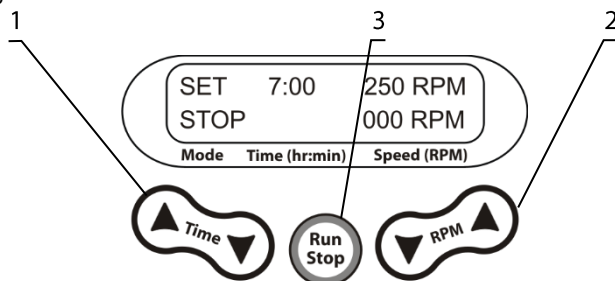

Figure 2. Control panel of PSU-10i
- 5.1.3. Set the required working time interval in hours and minutes (the increment is 1 min) using the ▼ and ▲ **Time** keys (fig. 2/1). Pressing the key for more than 2 s will increase the increment.
- 5.1.4. Set the required shaking speed (the increment is 10 rpm) using the ▼ and ▲ **RPM** keys (fig. 2/2). Pressing the key for more than 2 s will increase the increment. The set speed is displayed in the upper line of the display.
- 5.1.5. Press the **Run Stop** key (fig. 2/3). The platform starts rotation, indication **RUN** appears on display and the timer in the lower line of the display starts counting the time interval.